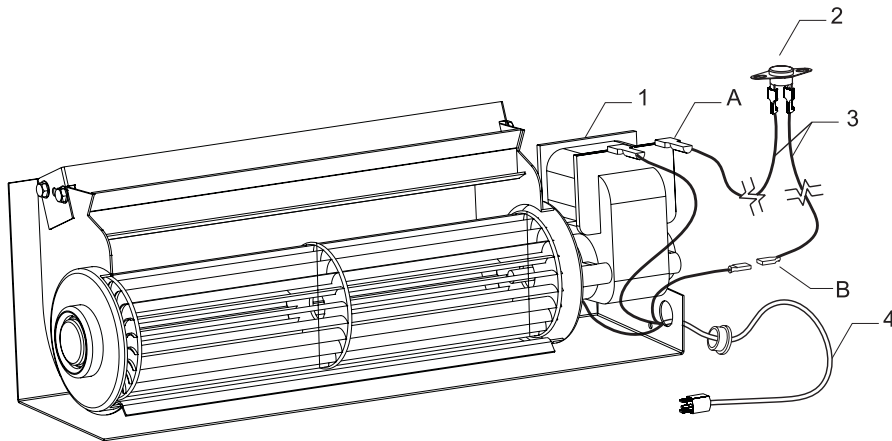

Figure 27
7. One fan control wire will have a 1/4" female terminal that must be attached to the open terminal on the blower motor. **See Figure 27, Connection A.**
8. The other fan control wire has a 1/4" male terminal. Attach this terminal to the open terminal on the blower power cord. **See Figure 27, Connection B.**